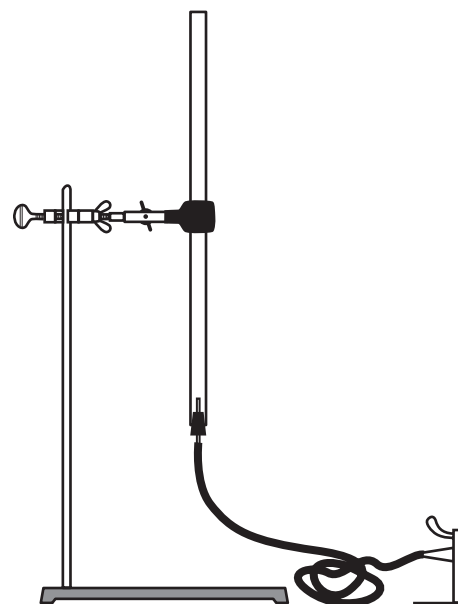

Figure 4.
3. Clamp the borosilicate tube vertically to the ring stand. Hold the rubber stopper to the bottom of the vertical tube (see Figure 4).